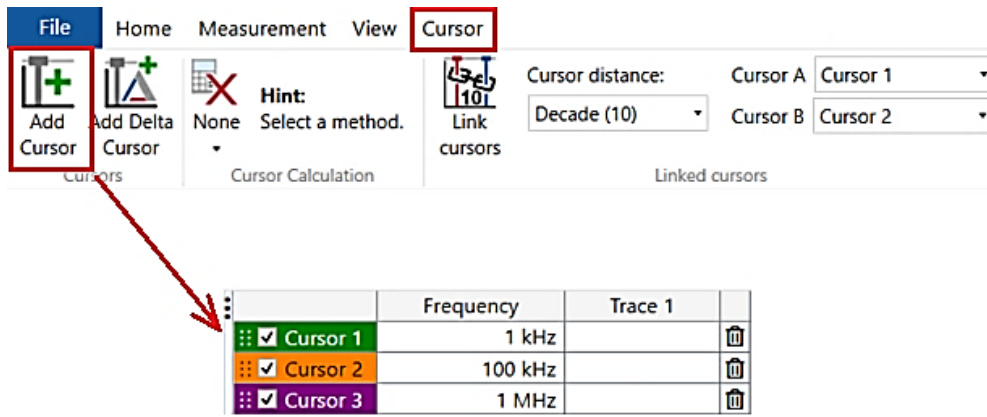

Figure 13: Working with Cursors
11. Set up the network analyzer by using cursors to measure the PSRR at each required frequency (1 kHz, 100 kHz and 1 MHz). Add more cursors if needed to measure peaks as shown on Figure 13.